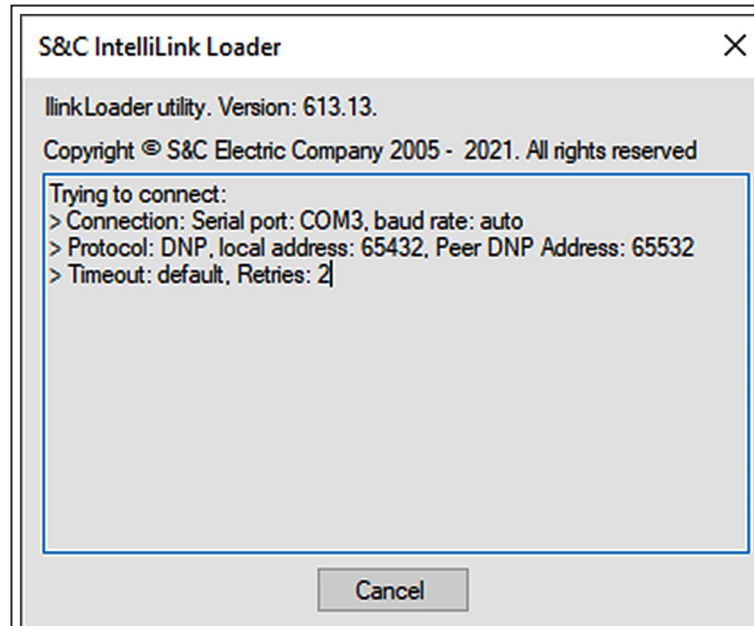
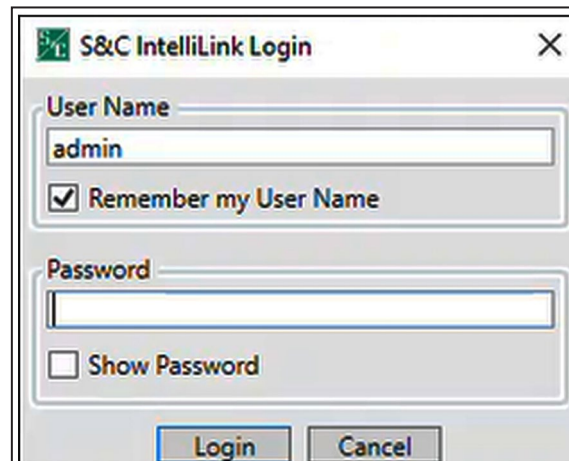

Figure 9. The Ilink Loader dialog box.
Figure 8. The User Name and Password entries in the S&C IntelliLink Login dialog box.
STEP 5. The Ilink Loader dialog box will open followed by the S&C IntelliLink Login dialog box. See Figure 8 and Figure 9 on page 15. Enter the username and password, and click on the **OK** button. Contact the Global Support and Monitoring Center at 1-888-762-1100 if requiring assistance with these entries.